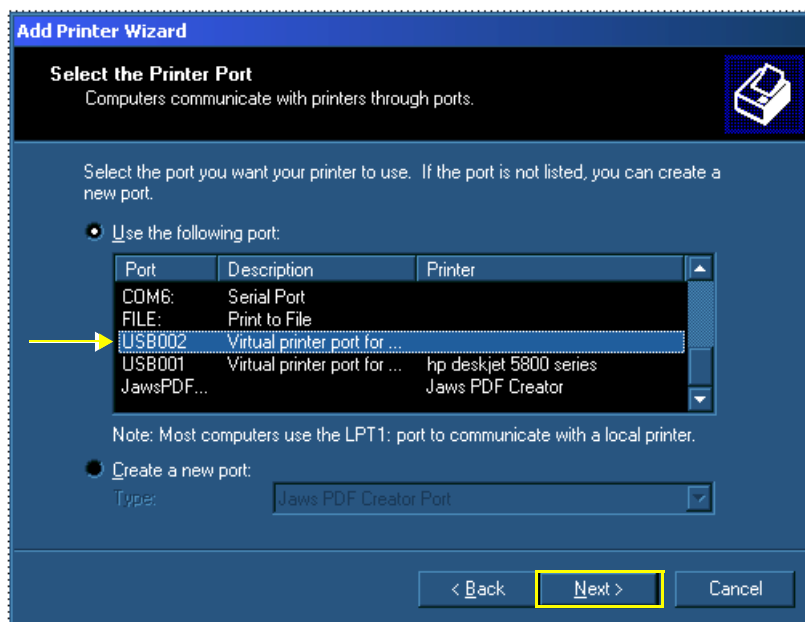

Figure 8-140 Choosing Available USB Port
12.) From the displayed list of available ports, choose one of the available USB ports, as shown in Figure 8-140.